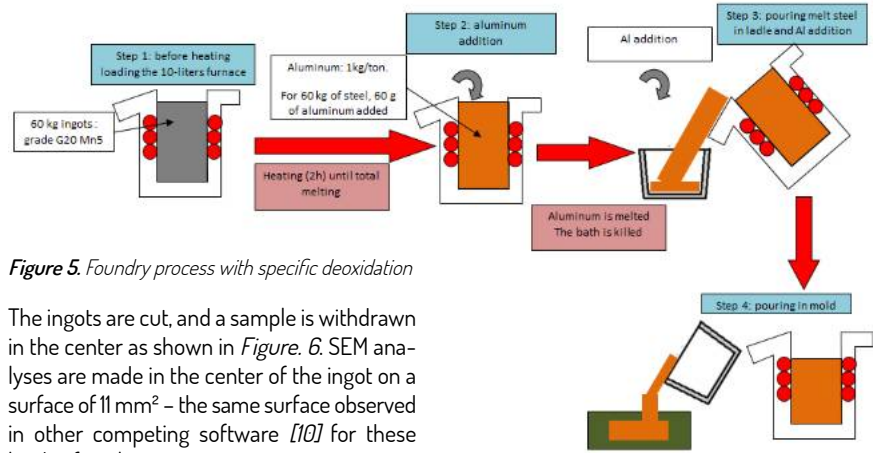

Figure 5. Foundry process with specific deoxidation
Two meltings were made in this study; the protocol of the aluminum addition is described in Table 2. For Melting 1, aluminum was added only in the ladle, so Step 2 from Figure 5 is skipped. For the first pouring, aluminum was placed at the bottom of the ladle, and for the second and third pouring, it was added in the middle of the ladle.
For Melting 2, aluminum was added in the furnace (Step 2, Fig. 5) and a second addition was made in the ladle for Tests 5, 6, and 7. For Test 4, no aluminum was added in the ladle, so part of Step 3 was skipped.
For Melting 1, aluminum was added only in the ladle. For the first pouring (1), aluminum was added at the bottom of the ladle, and for the second (2) and third (3) pouring, aluminum was added in the middle of the ladle. If it refers to Figure 5, Step 2 is skipped. No aluminum is added in the furnace.
In the second melting, aluminum is added in the furnace and in the ladle. All steps from Figure 5 are realized.